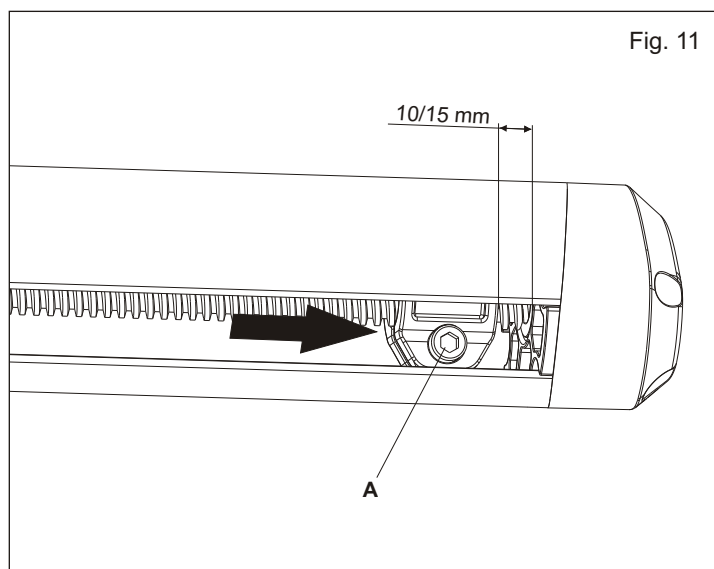

Fig. 11
2.6. Remove screw A, bring the mechanical stop to 10/15mm from the stop (Fig. 11) and tighten screw A again.